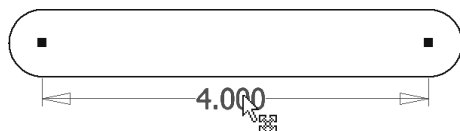

Figure 2.61
2. Move the cursor over the dimension until the move symbol  appears as shown in Figure 2.61.